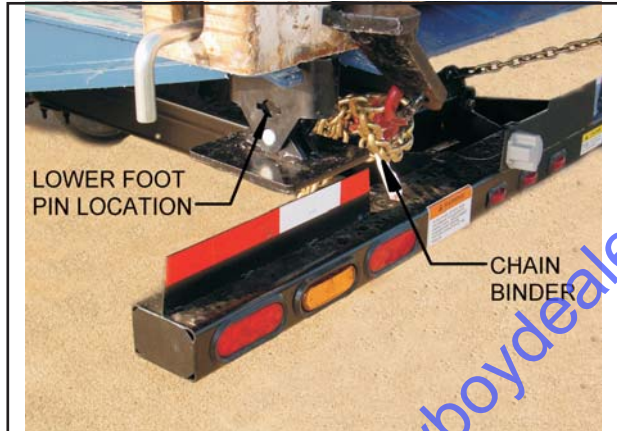

Figure 3-9 Location of Lower Foot Pin Under Approach Plate
- h. Install pin in bottom of feet which should be guided into approach plate (**See Figure 3-9**).
- f. Install pin in rear feet under approach plate (**See Figure 3-9**). Move undercarriage all the way back.
- g. Use chain binders to tighten the chain from undercarriage to container (**See Figure 3-9**).
3-12.12 For unloading a single 20' container, remove tiedown restraints such as chain binders, feet, and pins from the container before tilting the trailer (**See Figure 3-9**). Make sure nothing is behind the trailer for several feet in case the container starts sliding back when the trailer is tilted.
3-12.13 For unloading two 20' containers, remove tiedown restraints such as chain binders, feet, and pins from the rear container before tilting the trailer (**See Figure 3-9**).